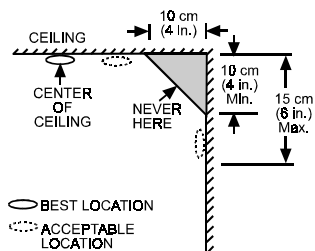

Figure 11. Recommended Best and Acceptable Locations to Mount Smoke Detectors
- Install smoke detectors as close to the center of the ceiling as possible. If this is not practical, put the detector on the ceiling, at least 10 cm (4 inches) away from any wall or corner, as shown in Figure 11.
- If ceiling mounting is not possible and wall mounting is permitted by your local and state codes, put wall-mounted detectors between 10 - 15 cm (4 - 6 inches) from the ceiling, also see Figure 11.
- Dead air spaces are often at the top of a peaked roof, or in the corners between ceilings and walls. Dead air may prevent smoke from reaching a detector. See Figures 11 and 12 for recommended mounting locations.